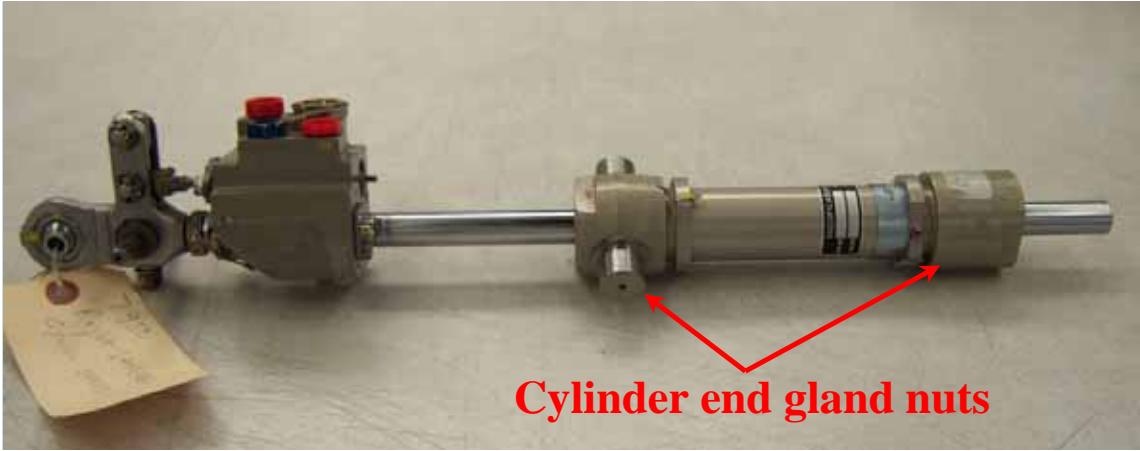

Figure 2
11. Using a heat gun, heat the boost actuator cylinder end gland nuts uniformly and all around the circumference to 160°F to 180°F (71.11 to 82.22°C). Repeat step 5 through 10 and record results in Table 1. (Refer to figure 2).